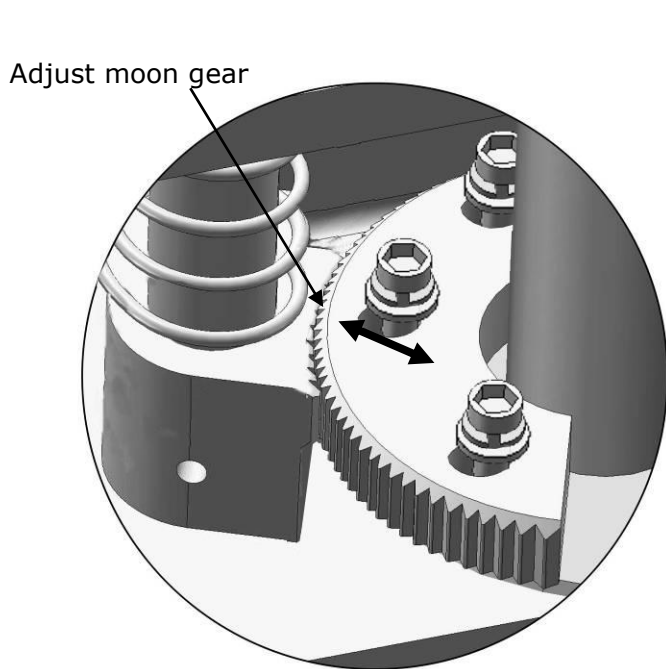

Fig. 24
3. Adjust the moon gear as arrow direction (**See Fig. 24**).